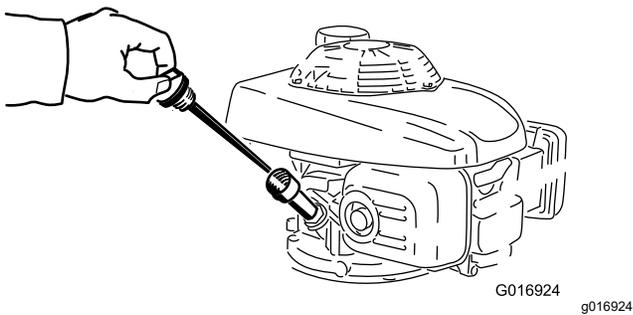

Figure 20
5. Retirez la jauge (Figure 20).